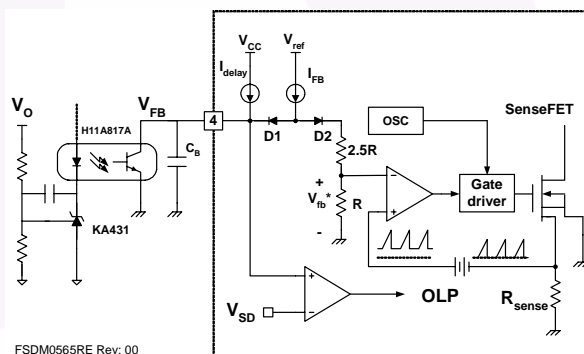

### Figure 17. Internal Start-up Circuit
**1. Start-up:** In previous generations of Fairchild Power Switches (FPS™), the  $V_{CC}$  pin had an external start-up resistor to the DC input voltage line. In this generation, the start-up resistor is replaced by an internal high-voltage current source. At start-up, the internal high-voltage current source supplies the internal bias and charges the external capacitor ( $C_{VCC}$ ) connected to the  $V_{CC}$  pin, as illustrated in Figure 17. When  $V_{CC}$  reaches 12V, the FSDM0x65RE begins switching and the internal high-voltage current source is disabled. The FSDM0x65RE continues normal switching operation and the power is supplied from the auxiliary transformer winding unless  $V_{CC}$  goes below the stop voltage of 8V.